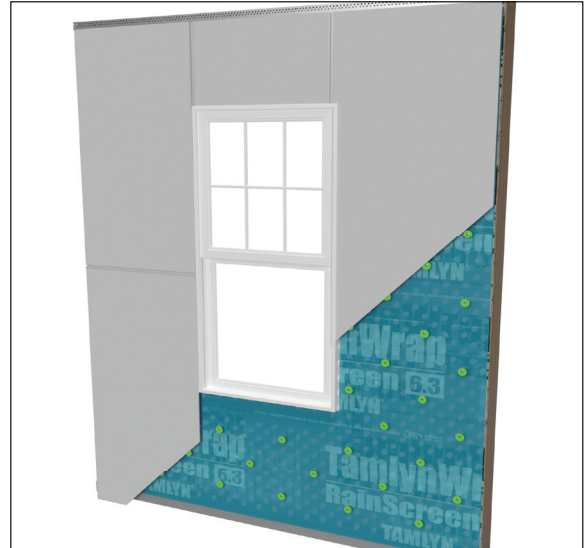

FIG 5:
- Install cladding as per manufacturer guidelines as shown in **(FIG 5)**.